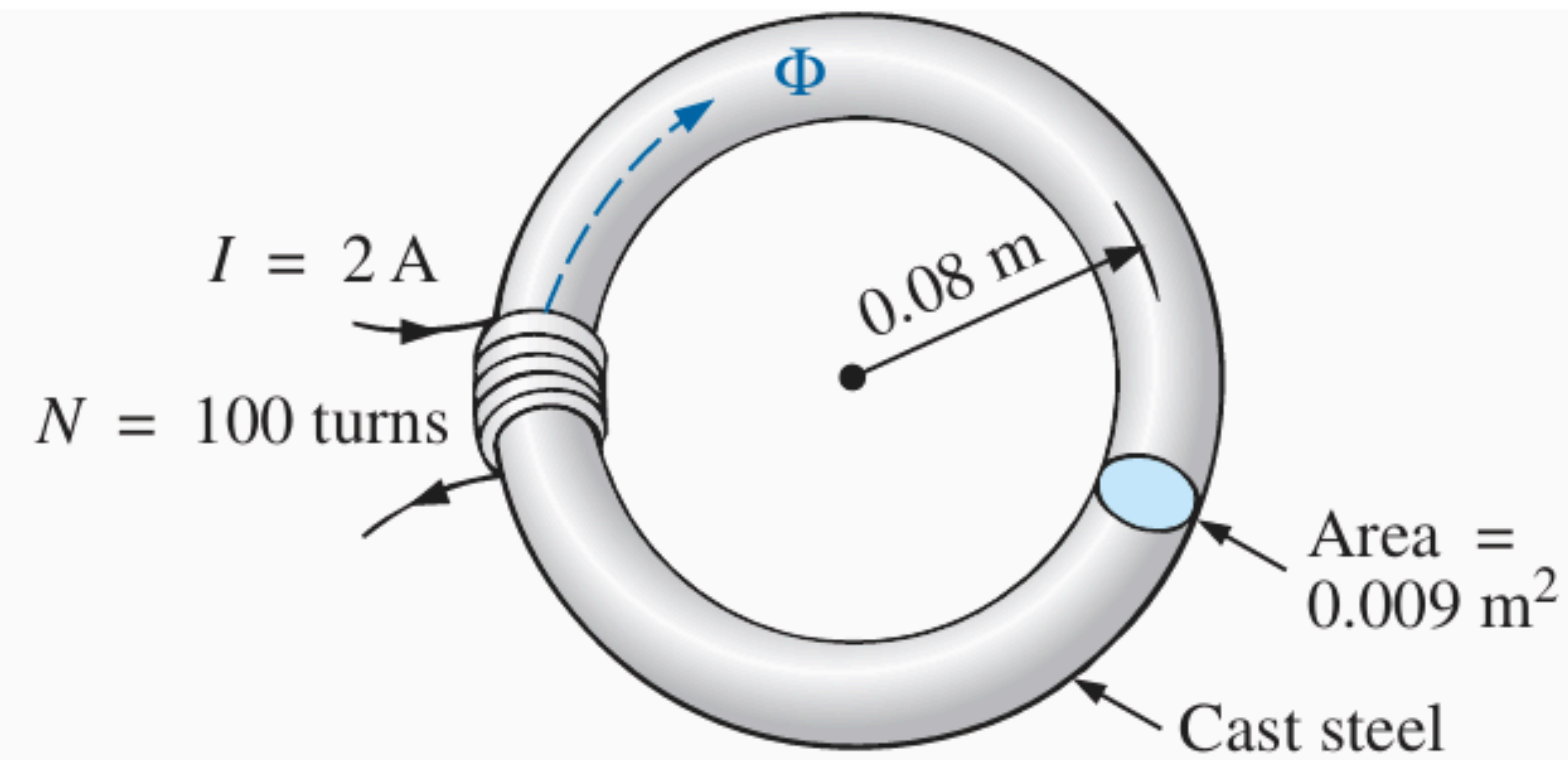

FIG. 12.46
19. Find the magnetic flux Φ established in the series magnetic circuit in Fig. 12.46.